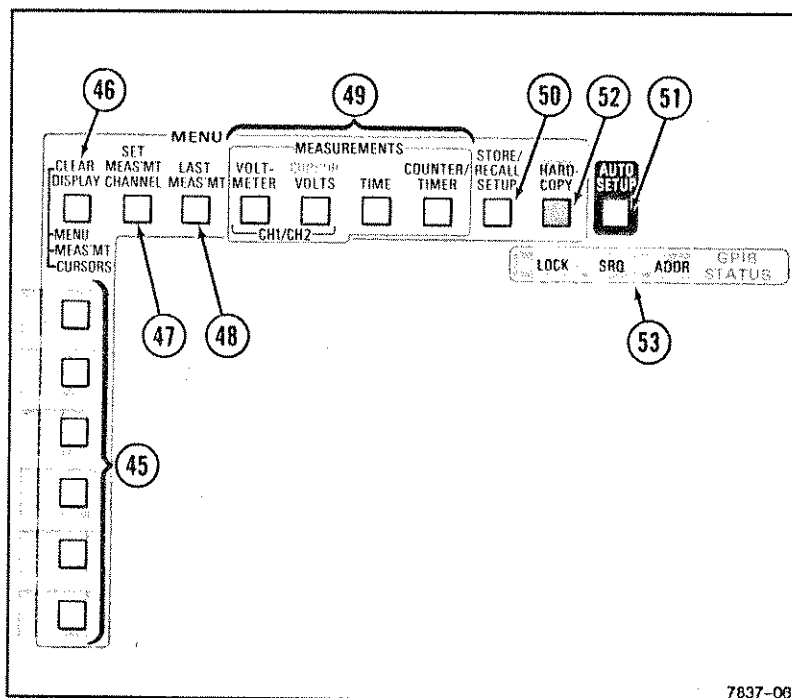

Figure 2-7. Menu controls.
Refer to Figure 2-7 for location of items 45 through 51.
- ④⑤ **Menu Item Select Buttons**—Select items from the list displayed on the right side of a displayed menu. A Menu Item Select button that has no corresponding menu item does nothing when pressed. The menu display will clear when the item is selected (unless the SERVICE mode CONFIGURE menu is set for: KEEP MENU ON WHEN ITEM SELECTED? YES). The factory settings default is NO.